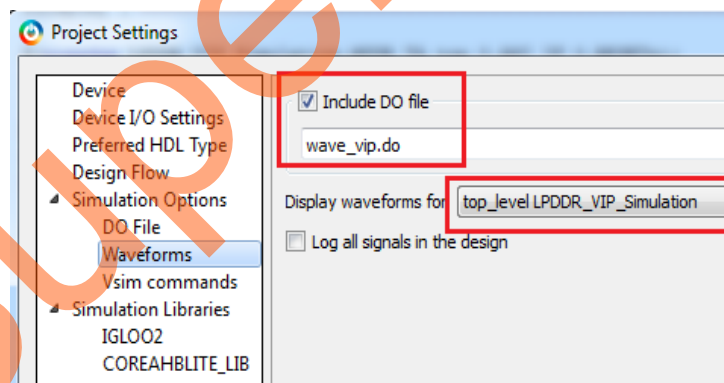

Figure 27 • Waveforms Settings
11. Change the default DO file name to **wave_vip.do** file in **Project > Project Settings > Simulation Options > Waveforms**. Figure 27 shows the **Waveforms** settings.